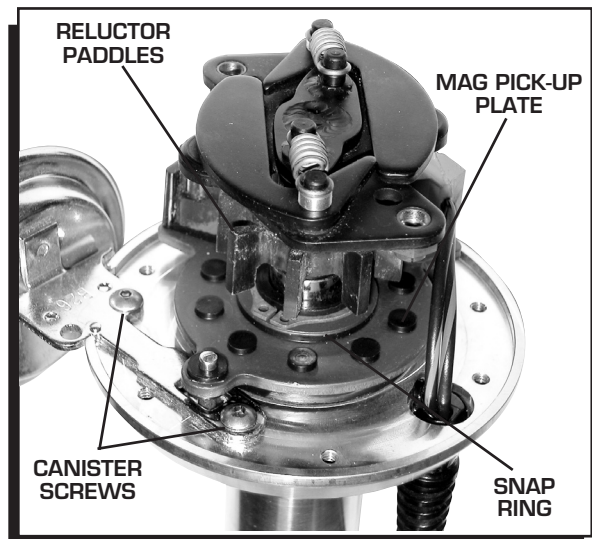

Figure 9 Removing the Vacuum Canister.
1. Remove the two Allen head screws that hold the advance canister (Figure 9).